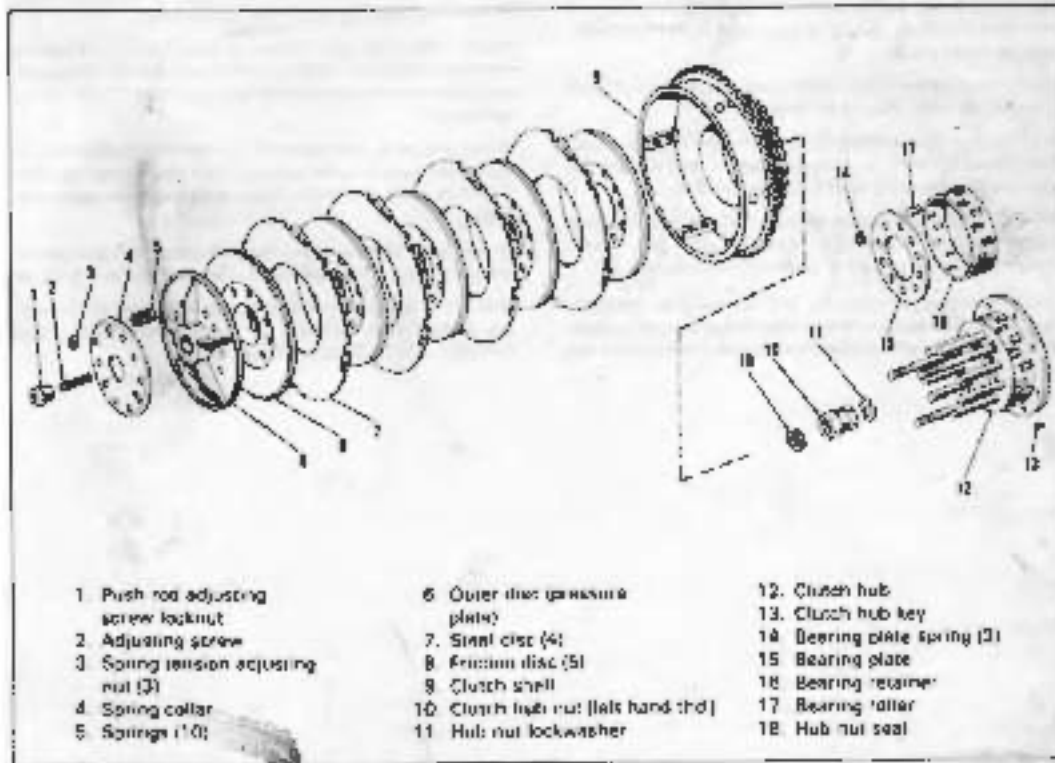

Figure 4-4. Clutch Assembly - Exploded View
### DISASSEMBLING CLUTCH (Figure 4-4)
## ASSEMBLING CLUTCH (Figure 4-4)
Place oil drain pan under transmission. Remove starter cover nuts (1) and plain washers (2). Loosen clutch adjusting screw (2, Figure 4-4). If transmission is in place, remove clutch lever rod from left end of clutch release lever. Remove exhaust pipe and other components mounted on transmission cover studs. Cover assembly with clutch release lever assembly is then free to be pulled off mounting studs. Clutch push rod assembly (3) will come off with cover. If starter cover binds, push rod is binding on starter clutch. Pry push rod off starter clutch. Do not pry cover for it will damage bearing. With starter cover removed, push rod (4) is free to be pulled out of mainshaft.